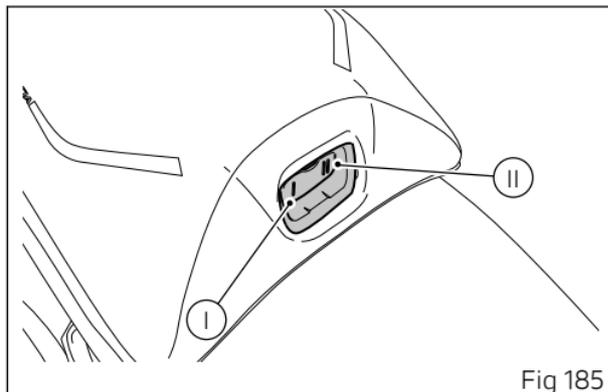

Fig 185
- position (I, Fig 185) to set the level to "Low";
- position (II, Fig 185) to set the level to "High".